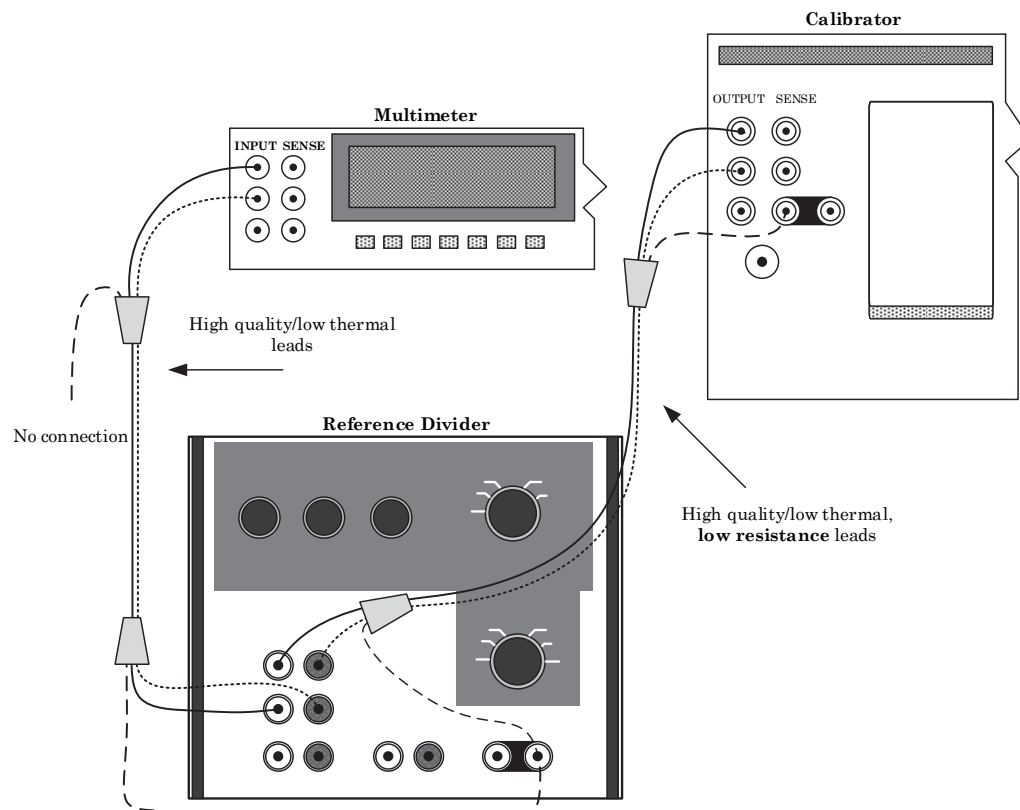

Figure A-1. Reference Divider Self-Calibration.
- (1) Ensure that the reference divider has been in a thermally stable environment for at least 4 hours.
- (2) Connect equipment as shown in figure A-1.